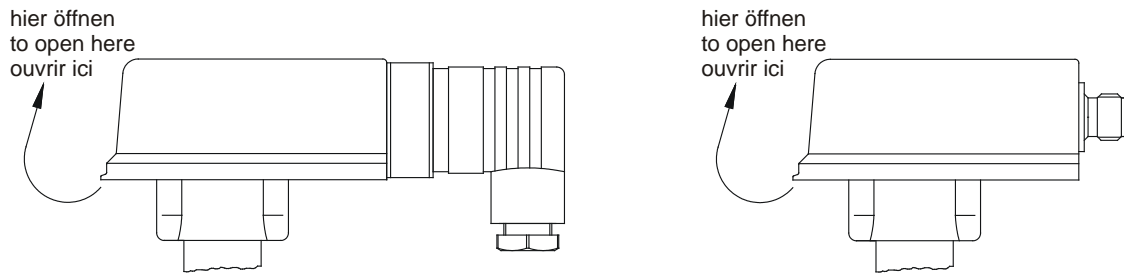

Fig.17
- In order to adjust the switching unit, open the cover of the switching head (→ Fig. 17) (not required for VK3...)